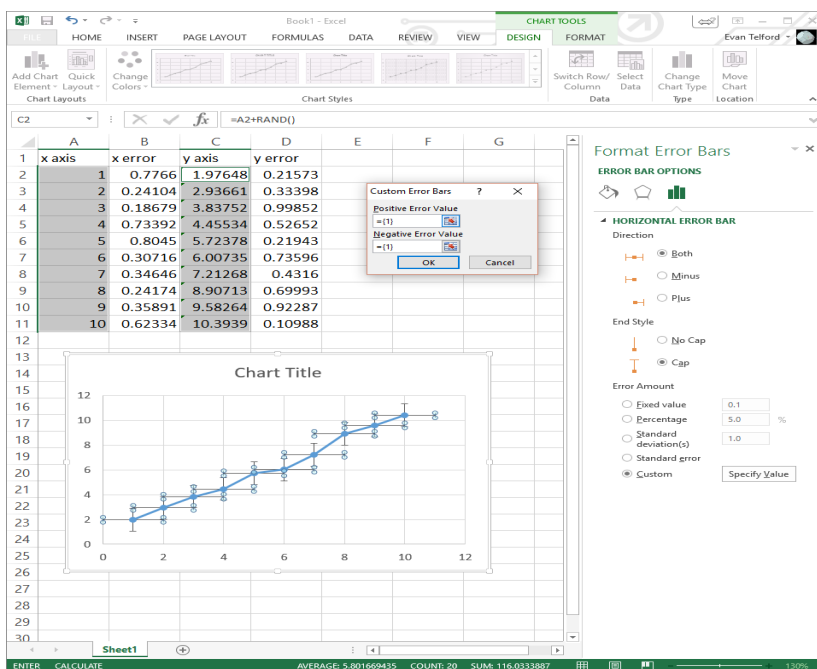

Figure 7: Using your own data set to create x and y error bars in excel.
- It should now prompt you for positive error values and negative error values. Delete “{1}” from the two boxes, and select your error bars using the cursor. Your chart will now have the correct error bars (see figure 7).